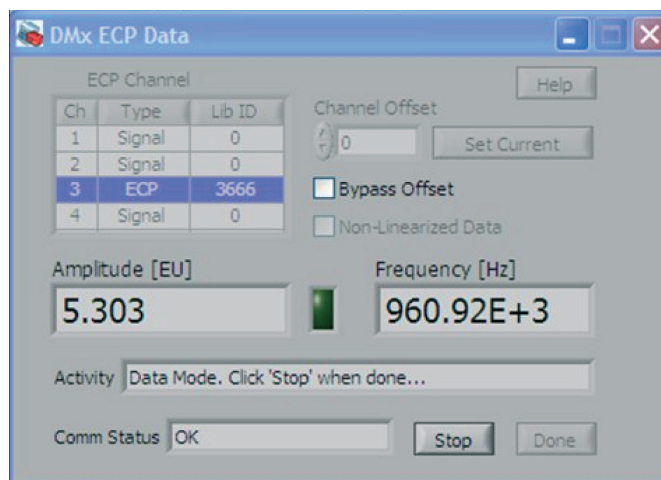

Fig. 12. DMx ECP Data dialog.
- 3 Confirm the probe oscillation frequency: **ECP Tools** tab, **Get ECP Data** (→ fig. 12).